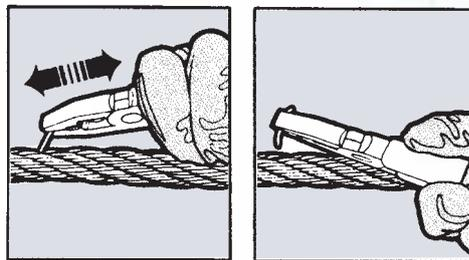

Fig 15
- 4.2 Remove broken wires as they occur by bending backwards and forwards using a pair of pliers until they break deep in the valley between two outer strands (see Fig. 15). Wear protective clothing such as overalls, industrial gloves, helmet, eye protectors and safety footwear during this operation.